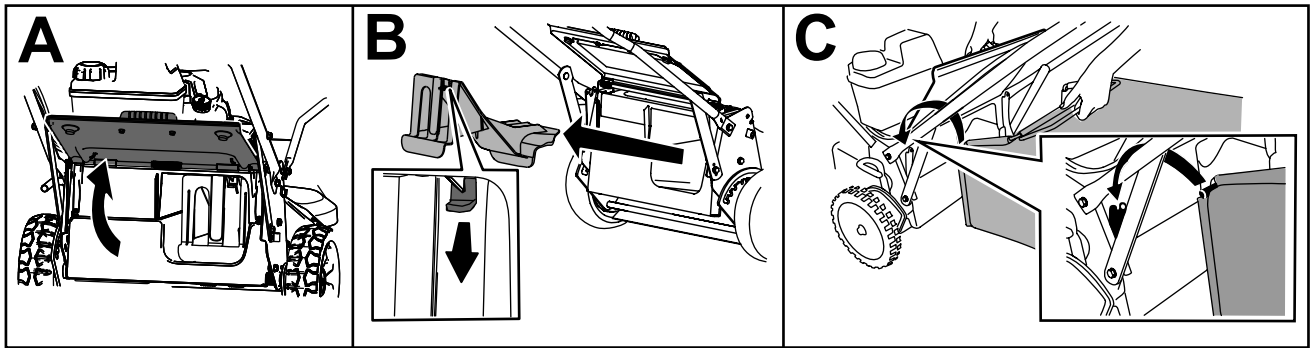

Figure 19
1. Raise and hold up the rear deflector (A of Figure 19).
2. Remove the rear-discharge plug by pulling down on the latch with your thumb and pulling the plug out from the machine (B of Figure 19).
3. Install the bag rod into the notches at the base of the handle, and rock the bag back and forth to ensure that the rod is seated at the bottom of both notches (C of Figure 19).